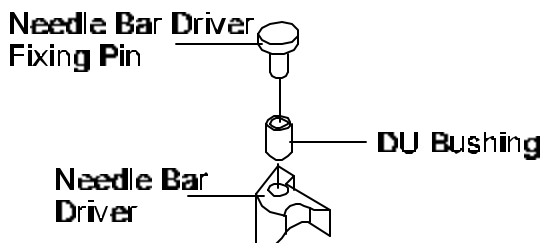

Figure 4
9. **Remove** Needle Bar Driver Fixing Pin from Needle Bar Driver Fixing Base. See Figure 4. **Figure 1**